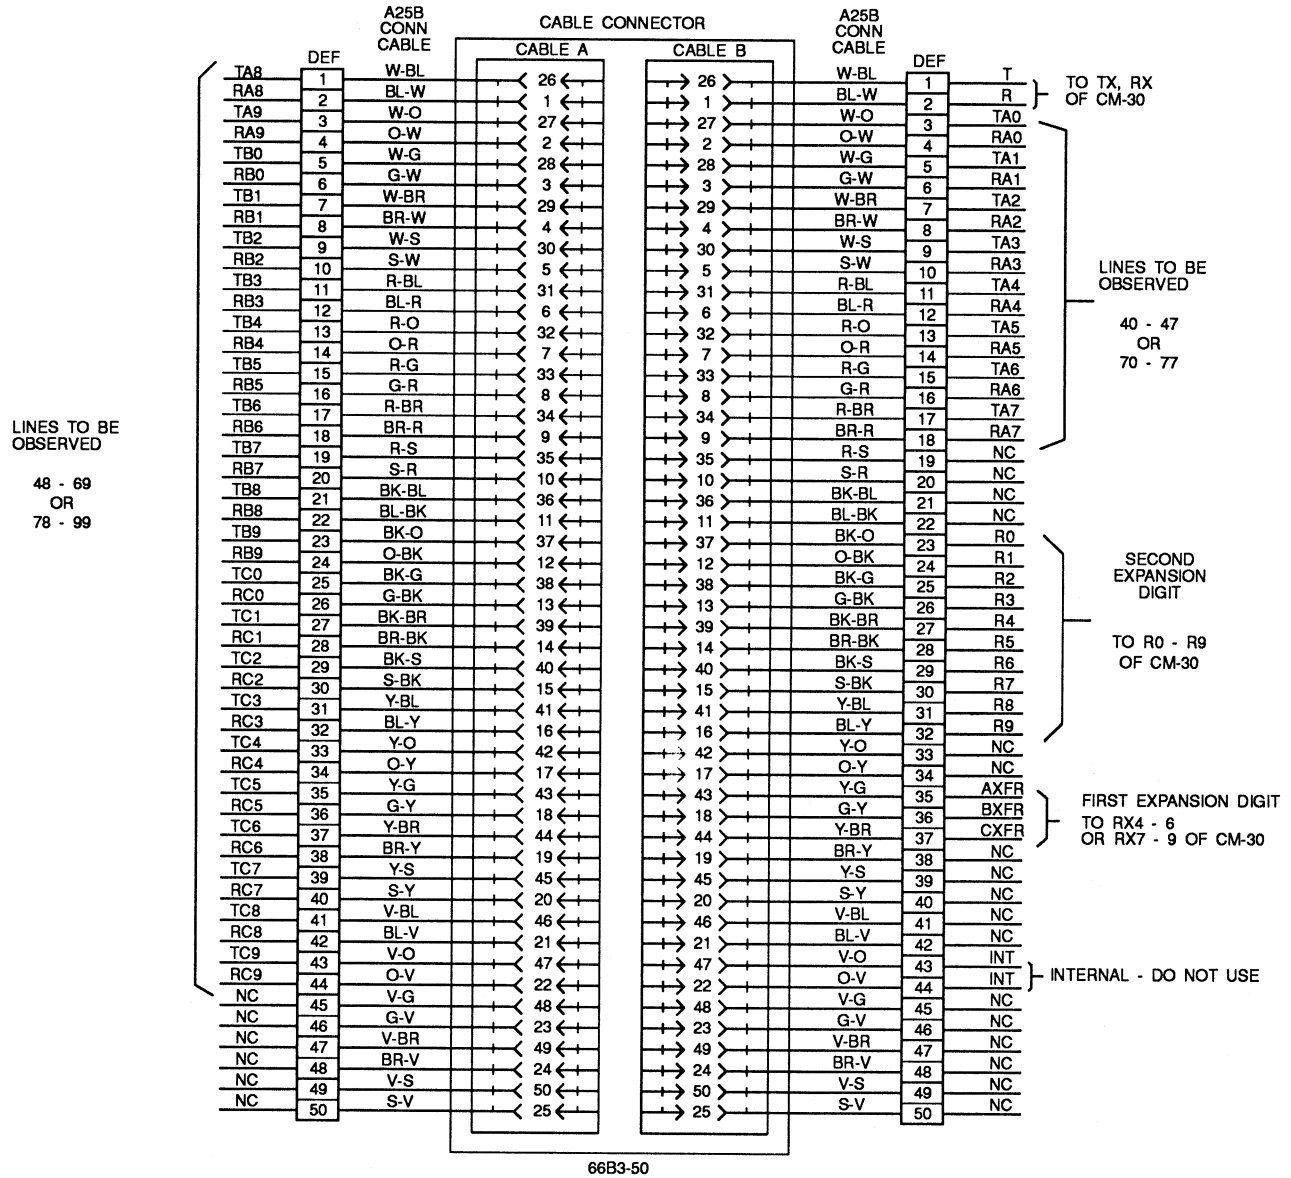

Fig. 2
- 4.02 Cross connect as shown in figure 2.